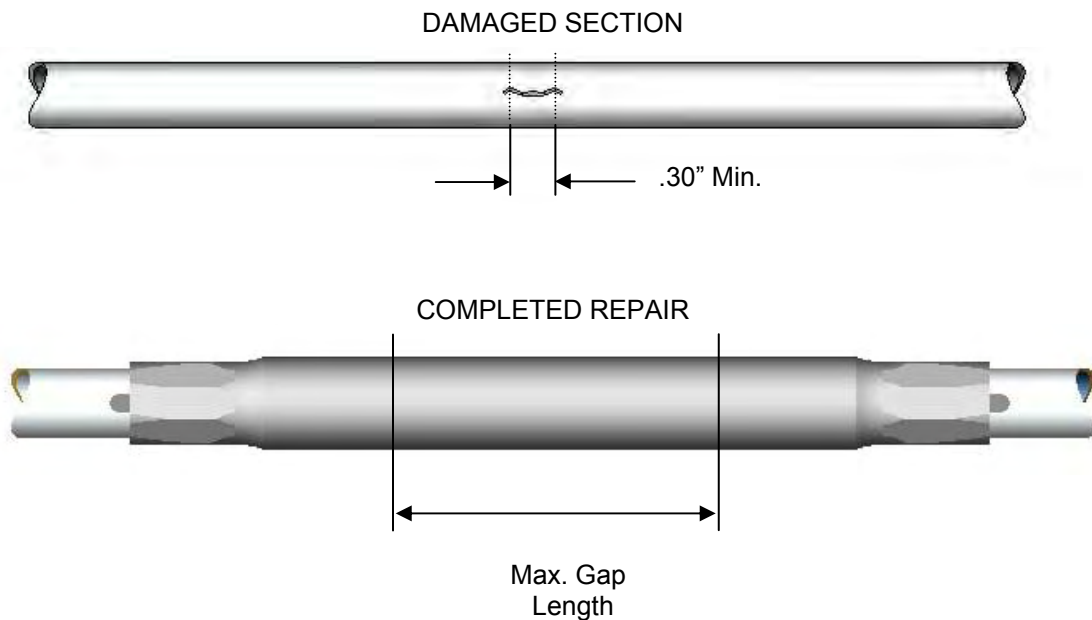

Figure 10: Type 2b Repair using extended length Permaswage®
a. Repair using Extended Length Permaswage. Part number D10339. See Figure 10 below.